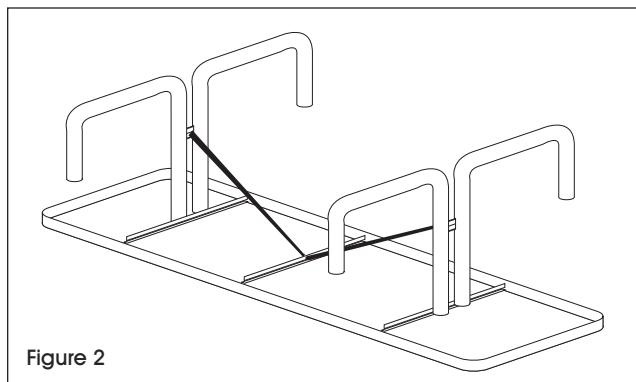

Figure 2
3. Before tightening the bolts, insert cross brace and bolt to the table frame using one bolt, one washer and one nut. (See Figure 2)